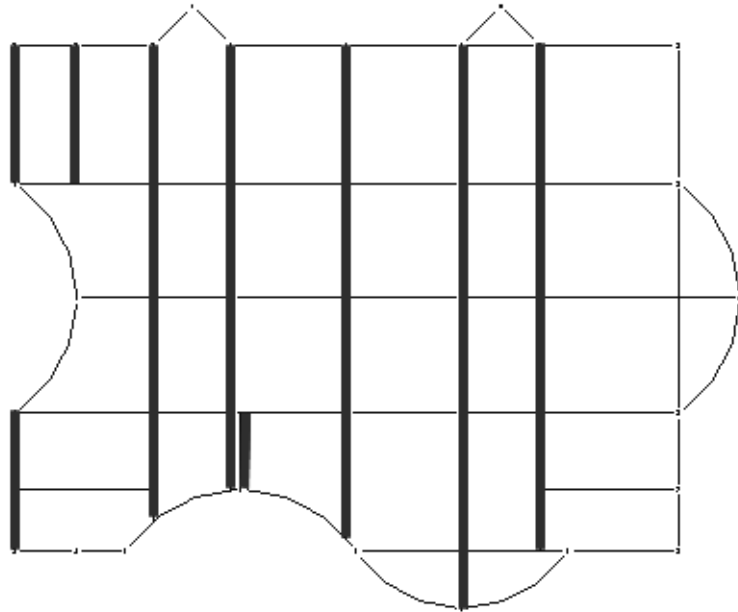

Figure 7–54
- For this level you need to lower the perimeter beams of each bay in the North-South direction for the joist bearing. Select all of the vertical beams in the plan, excluding the beams along the far right, as shown in Figure 7–54.